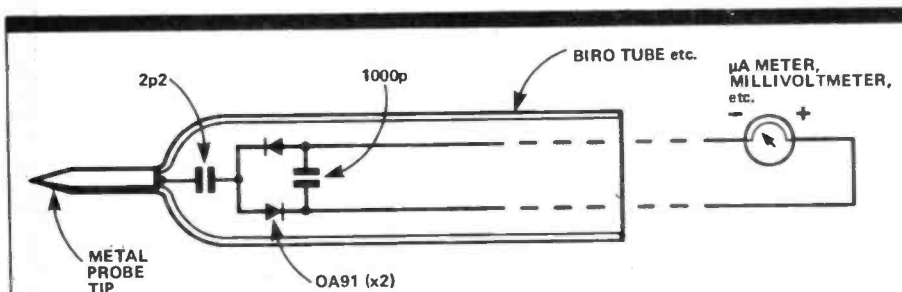

**Fig. 4** Typical oscilloscope trace derived from absorption spectrum analyser
**Fig. 3** shows the component layout, actual size, and the interconnections with the external test instruments. **Fig. 4** is a redrawing of a typical display. (Sorry, I don't have a scope camera.) Note the role of the signal generator. By injecting the generator signal onto the line along with the sample, a realtime calibration of the complete system can be arranged. The generator inserts a pip which can be moved up and down the trace to calibrate received signals. When the generator and incident signals precisely coincide, the combined pip develops a beat ripple. The frequency is simply recorded from the signal generator and the trace blip thus identified.